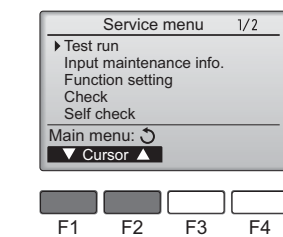

Fig. 7-3
③ Select "Test run" with the [F1] or [F2] button, and press the [SELECT] button. (Fig. 7-3)